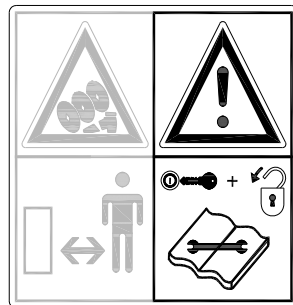
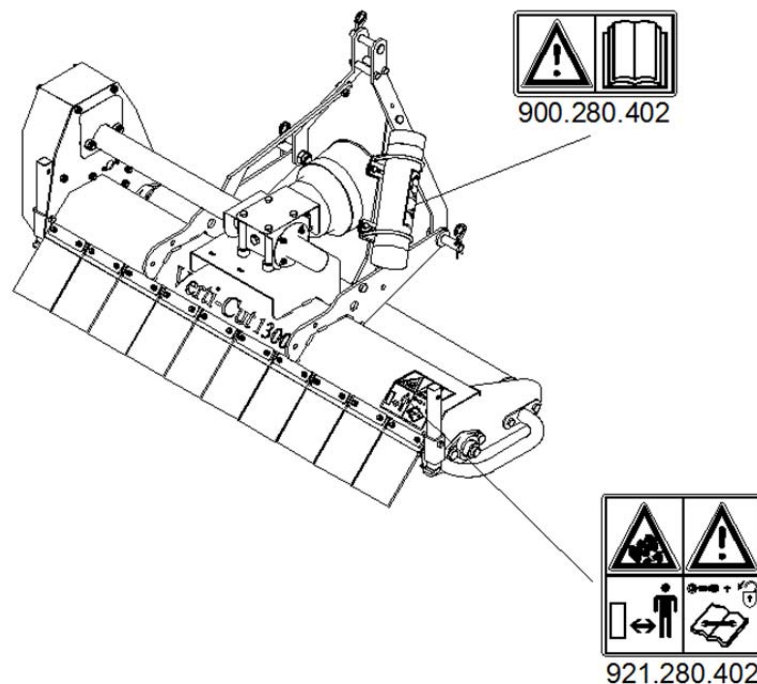

Figure 2
Figure 5
(Figure 2).
Safety stickers (Figure 2, 3 and 4) with an identical meaning are attached to both sides (Figure 5) of the Verti-Cut. These safety stickers must always be clearly visible and legible and must be replaced if they have become damaged.
(7) Location of the safety stickers (Figure 5)